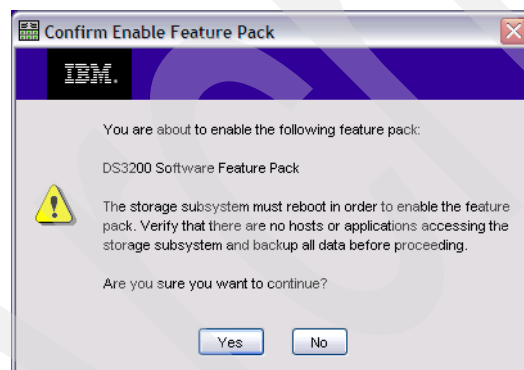

Figure 12-16 Confirm Enable Feature Pack
2. In the Confirm Enable Feature Pack window, read the information and click **Yes** to confirm it (Figure 12-16).